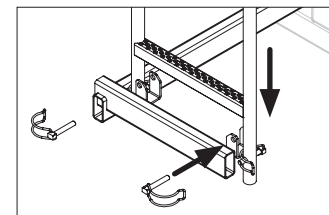

Fig. B5.11
6. Insert the tube linch pin (56.3) into the Ladder Connector (Fig. B5.11).